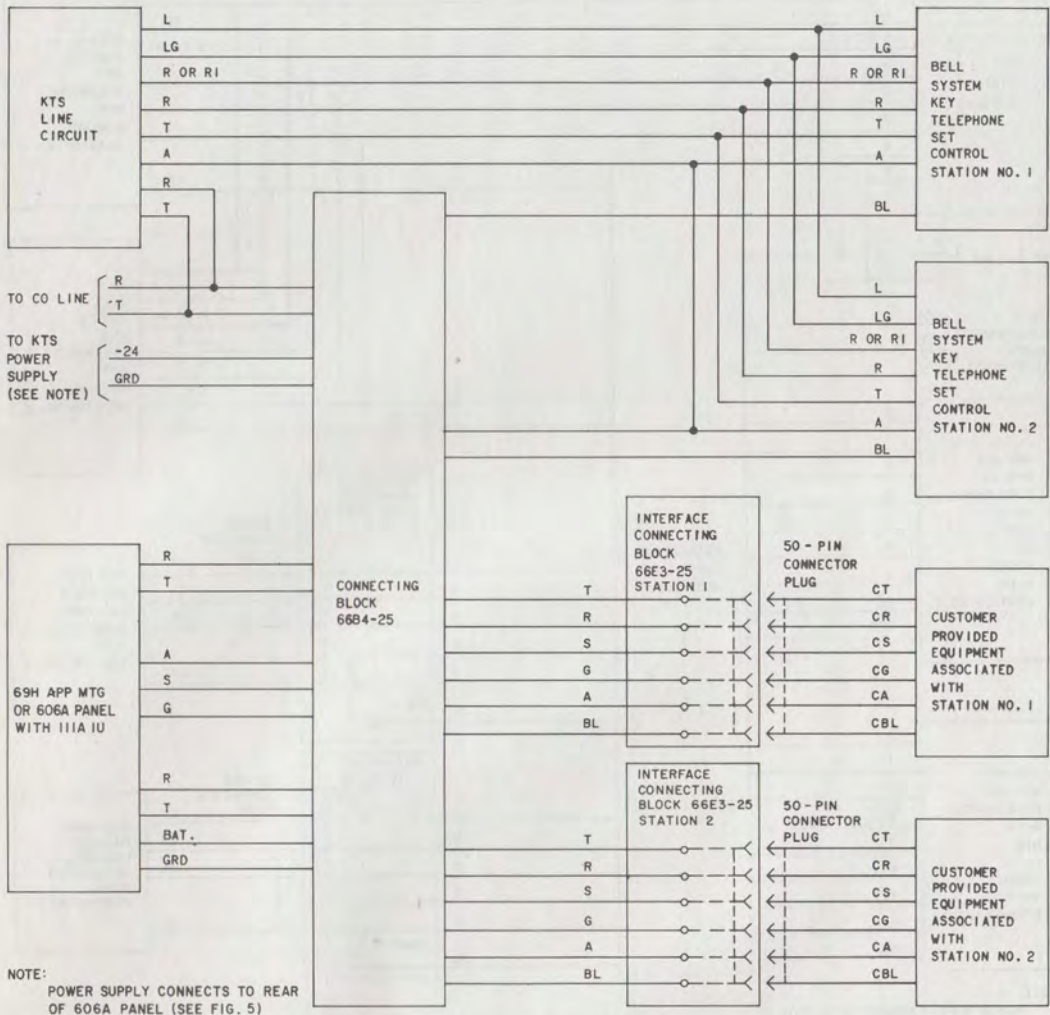

Fig. 7—Block Diagram—Voice Connecting Arrangement CEBBX
**3.04** One 111A IU must be provided per each CO line with any number of multiple control stations to be connected to the CP equipment for Voice Connecting Arrangement CEBBX (Fig. 7).